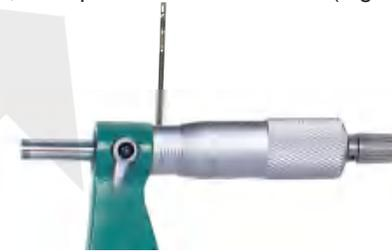

Fig.1
- Tighten the locking screw, use spanner to rotate sleeve (Fig.1), adjust the reading to be zero